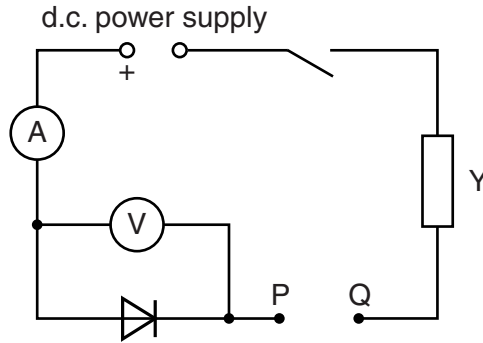

Fig. 3.1
4. The Supervisor should set up the apparatus as shown in Fig. 3.1. The terminals P and Q should be clearly labelled. The Supervisor should check the circuit by connecting the terminals P and Q together and closing the switch. Voltmeter and ammeter readings should be obtained. If the ammeter reading is zero, the diode may have been connected the wrong way round. After this check has been made the switch should be opened and the terminals P and Q should be disconnected. **Candidates** will be required to connect the 10Ω resistor between P and Q.
5. At the changeover, the apparatus should be restored to its original state as in Fig. 3.1. There should be a gap between P and Q. The Supervisor should connect P and Q together, close the switch and check the ammeter and voltmeter readings have not changed significantly. If cells are used, they may need to be replaced and the diode replaced if the current is zero. The switch should then be opened and the terminals P and Q should be disconnected.